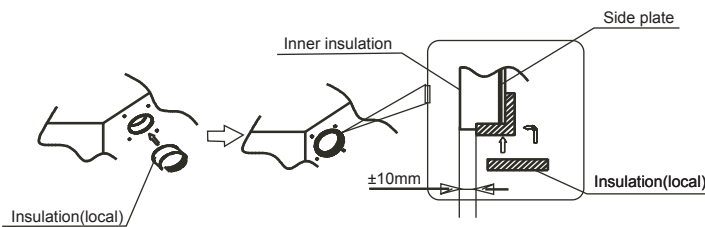

Fig. 5-5
- Put the insulation tightly around the hole of the unit as shown. The ends of the side plate and the inner insulation must be completely adhered without leaving any clearance along the circumference of the hole. Make sure the inner surface of insulation tightly contacts the inner insulation edge and the side plate. (refer to fig.5-5)